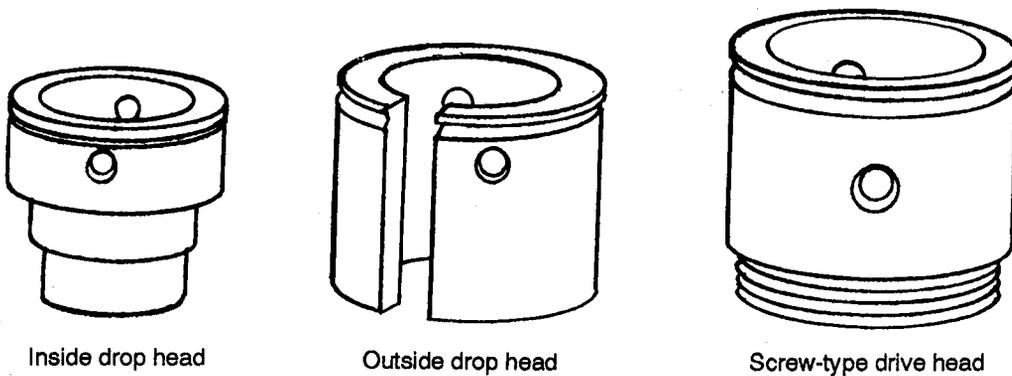

Figure 9-10. Drive heads
(4) Drive Heads. Drive heads (Figure 9-10) placed on the pipe protect the threads from the driving blows of the drive clamps. The drive heads are put on by unscrewing the bit, slipping the drive head over the drilling stem, and making up the joint again. If you use the screw drive head, make sure you unscrew the drive head from the pipe coupling before pulling the tools from the hole.